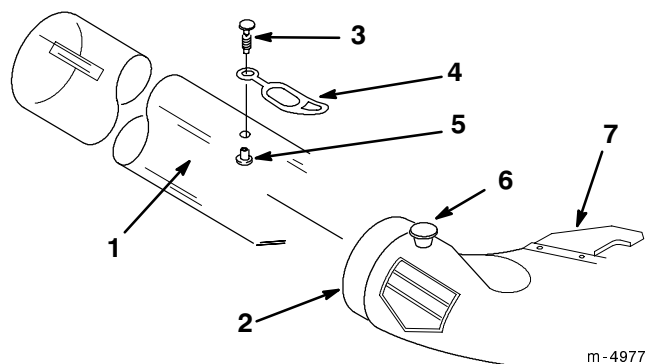

Figure 7
4. Lift the mower deflector and hook the support bracket on the back of the chute behind the pivot post on the mower (Fig. 7).